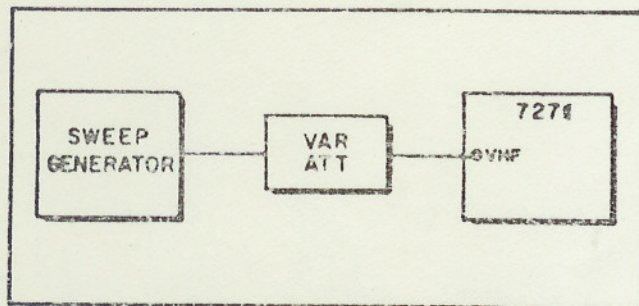

Fig. 5-7. Set up for Discriminator Alignment
1. Connect equipment as shown in Fig. 5-7.